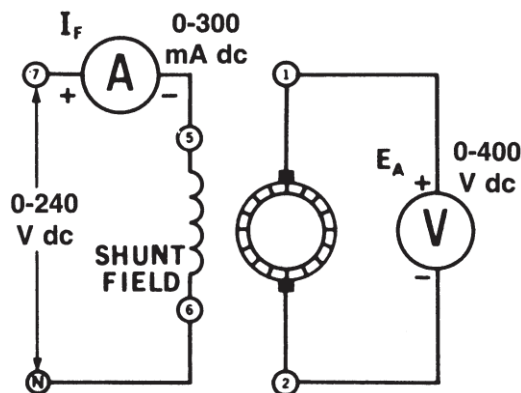

Figure 7-2.
- G 3. a. Using your DC Motor/Generator and DC Voltmeter/Ammeter, connect the circuit shown in Figure 7-2.